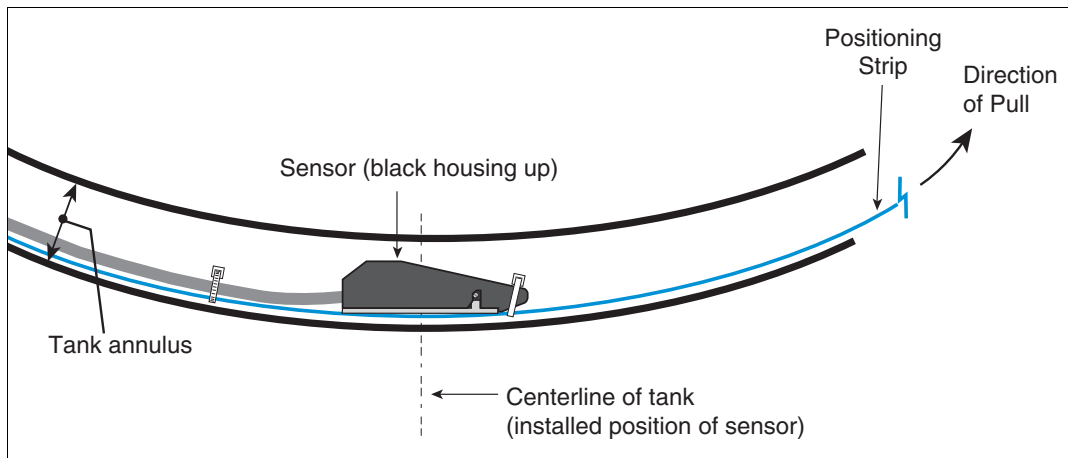

Figure 6.
4. When the two markers are lined up, the sensor is centered correctly at the bottom of the annulus (Figure 6).